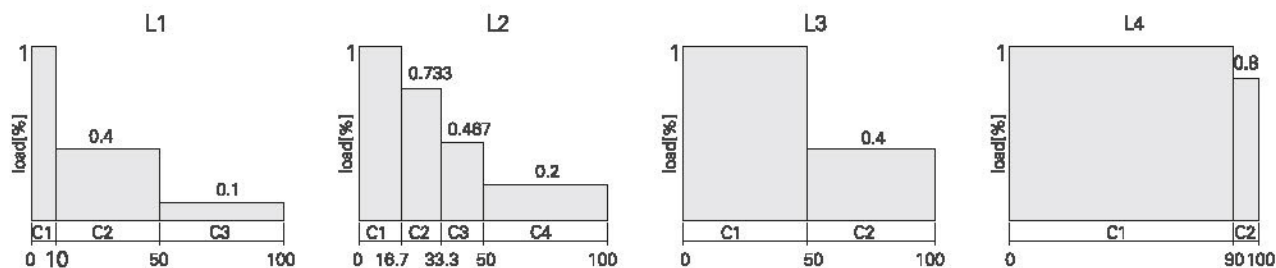

Figure 10 Crane load spectrum
6.3he load spectrum for the Crane (figure 10)